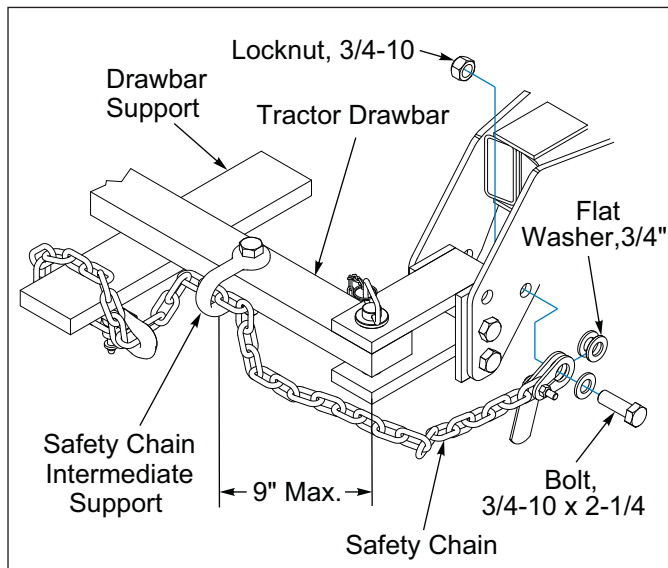

Figure 3-5: Safety Chain
4. Attach Safety Chain to tractor allowing plenty of movement for turning both directions. The Safety Chain should latch securely to prevent it from coming loose. See Figure 3-5.
2. Raise the Seeder fully to extend the Hydraulic Lift Cylinders and rotate the Transport Locks in the engaged position over the Cylinder Rod. Secure with the Clevis Pins and Hairpin Cotters. **See Figure 3-5.**
3. If not already done, raise Seeder fully to extend the Hydraulic Lift Cylinders and rotate the Transport Locks in the engaged position over the Cylinder Rod. Secure with the Clevis Pins and Hairpin Cotters. **See Figure 3-5.**
1. Raise the Seeder fully to extend the Hydraulic Lift Cylinders and rotate the Transport Locks to the engaged position. Secure with the Clevis Pins and Hairpin Cotters. **See Figure 3-5.**
7. Raise the Seeder and install Transport Locks. **See Figure 3-5.**